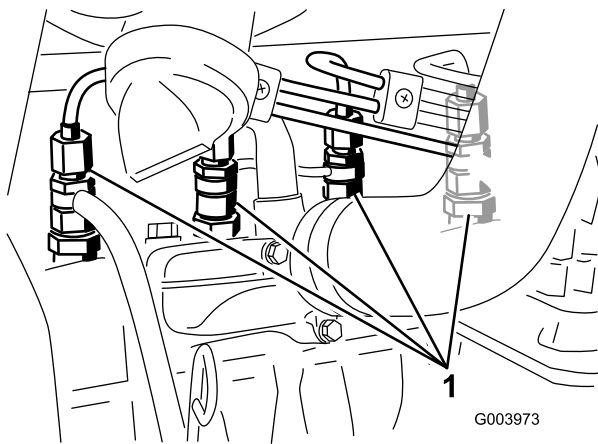

Figure 58
1. Loosen the pipe connection to the #1 nozzle and holder assembly (Figure 58).